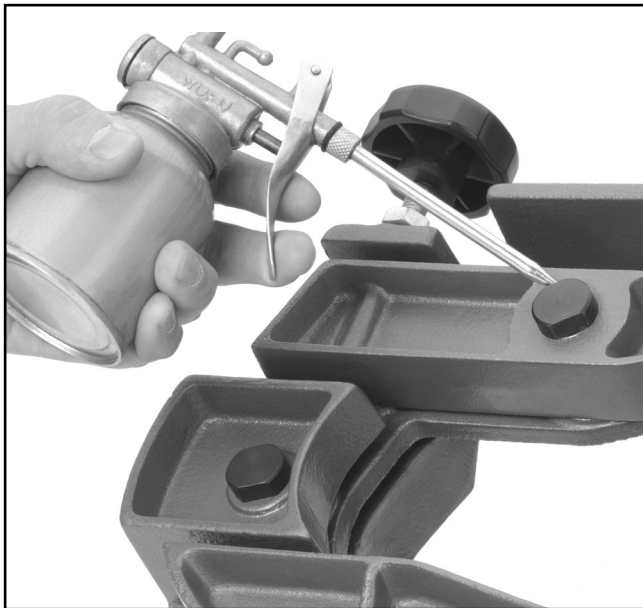

Figure 16. Lubricating bushings.
2. Lay the machine on its side as shown in **Figure 16**.